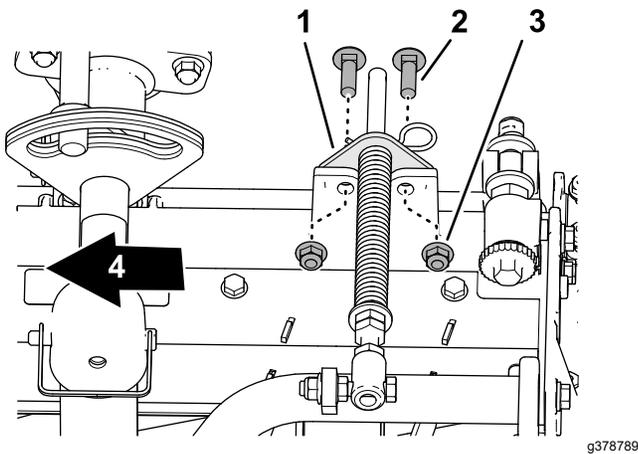

Figure 14
5. Align the holes in the turf-compensator bracket with the holes in the cutting-unit frame (Figure 14).